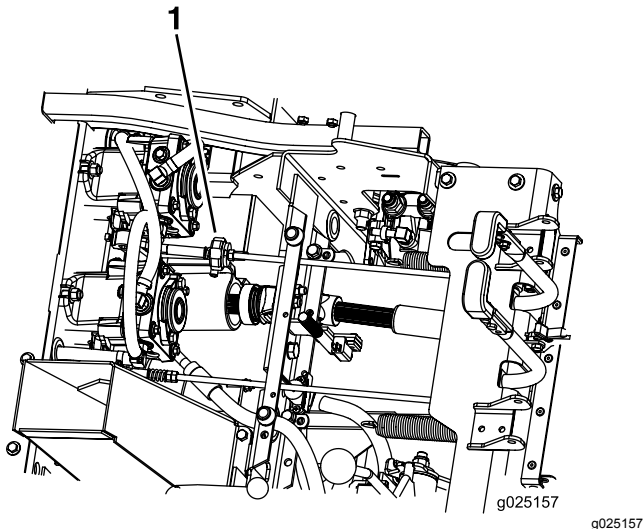

Figure 42
6. Check and ensure that the machine does not creep when in neutral with the parking brakes disengaged (Figure 42).